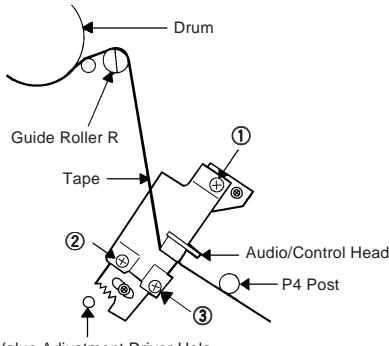

Fig. 2-2
2. Confirm that there is no crease on the tape between the P4 post and guide roller (R) and the tape is running smoothly. (It is absolutely impossible to get satisfactory sound if the tape is distorted between the A/C head and P4 post.)
3. If the tape still does not run smoothly, turn the screw ① and adjust the tilt of the A/C head. (Refer to Fig. 2-2)
2. Turn the screw ② slowly to change the azimuth of the A/C head. Adjust the height so that the audio output becomes maximum. (Refer to Fig. 2-2)
3. Adjust the screw ③, (Refer to Fig. 2-2) until the height of the A/C head reaches the position against the tape as shown in Fig. 2-3.
4. When the control head height is not correct. (When you must turn the screw more than 45 degrees), Turn all of the screws ①, ② and ③ to the same degrees.